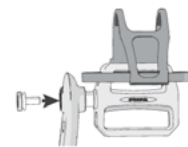

Figure 12
3. Secure the pedal using one bolt **4** (Figure 12) and torque to 33 ft-lb (45 N-m) with a hex key **12**.